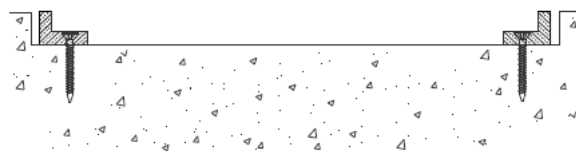

Figure 7
STEP 12. Select the frame anchors. Using the anchors provided by the factory, attach the frame to the concrete (see Figure 7).